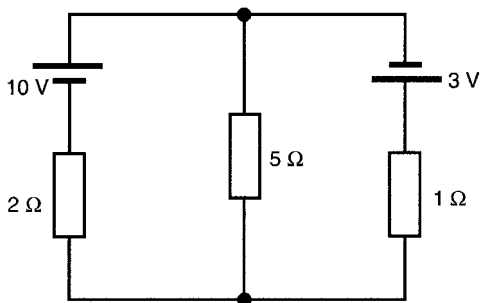

Figure A4.1
- 1 Find the current flowing in the $5\ \Omega$ resistor of the circuit shown in Fig. A4.1 using (a) Kirchhoff's laws, (b) the Superposition theorem, (c) Thévenin's theorem, (d) Norton's theorem.